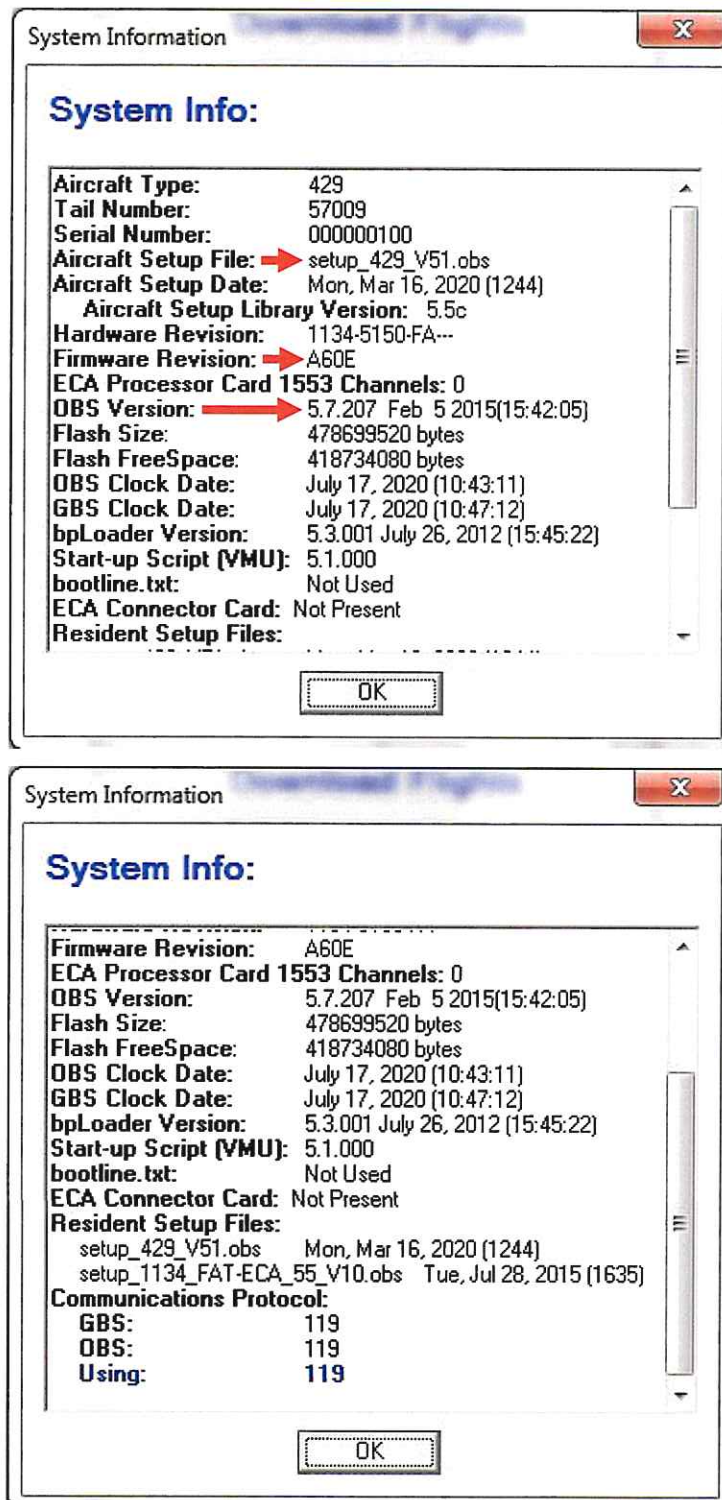

FIGURE 1 – SYSTEM INFO PAGE REPRESENTATION
5. The 'System Info' page should represent the following example after successfully loading the 5.7 SP2B V51 software (see Figure 1).